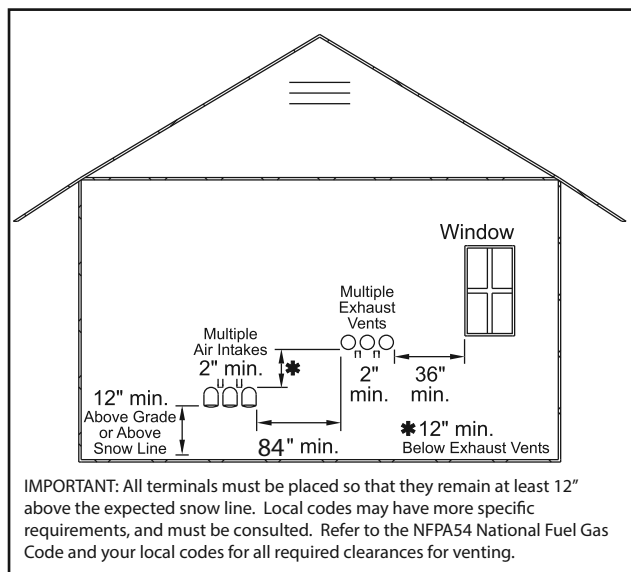
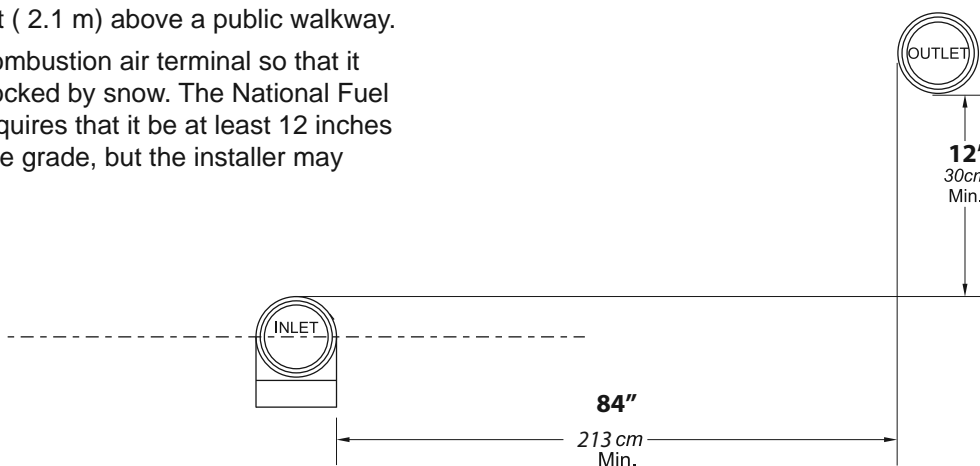

Figure 6. Multiple Side-Wall Terminals, Air and Vent
Figure 5. Minimum Venting Distance
1. Figure 5 on page 15 shows the requirements for mechanical vent terminal clearances for the U.S. and Canada.
7. If the boiler or water heater uses ducted combustion air from an intake terminal located on the same wall, see See Figure 6 and Figure 5 for proper spacing and orientation.
4. If the Unit is side-wall vented to the same wall, use Figure 5 to determine the proper mounting locations.
5. Multiple vent kits should be installed such that the horizontal distance between outlet group and inlet group is 84" (213 cm). (See Figure 6)
6. The vent outlet must be at least 12" above the top of the air inlet, and must be at least 84" (213 cm) horizontally from the air inlet. (See Figure 6).